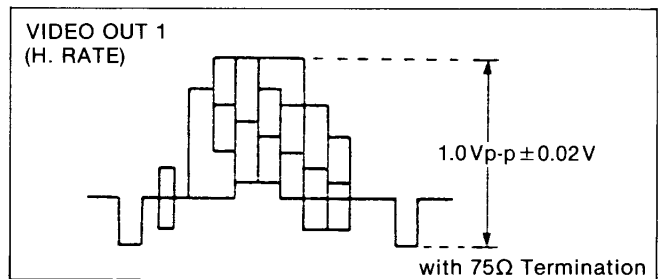

Figure E22
4. Adjust VR8010 for 1.0Vp-p +/-0.02Vp-p as shown in Figure E22.